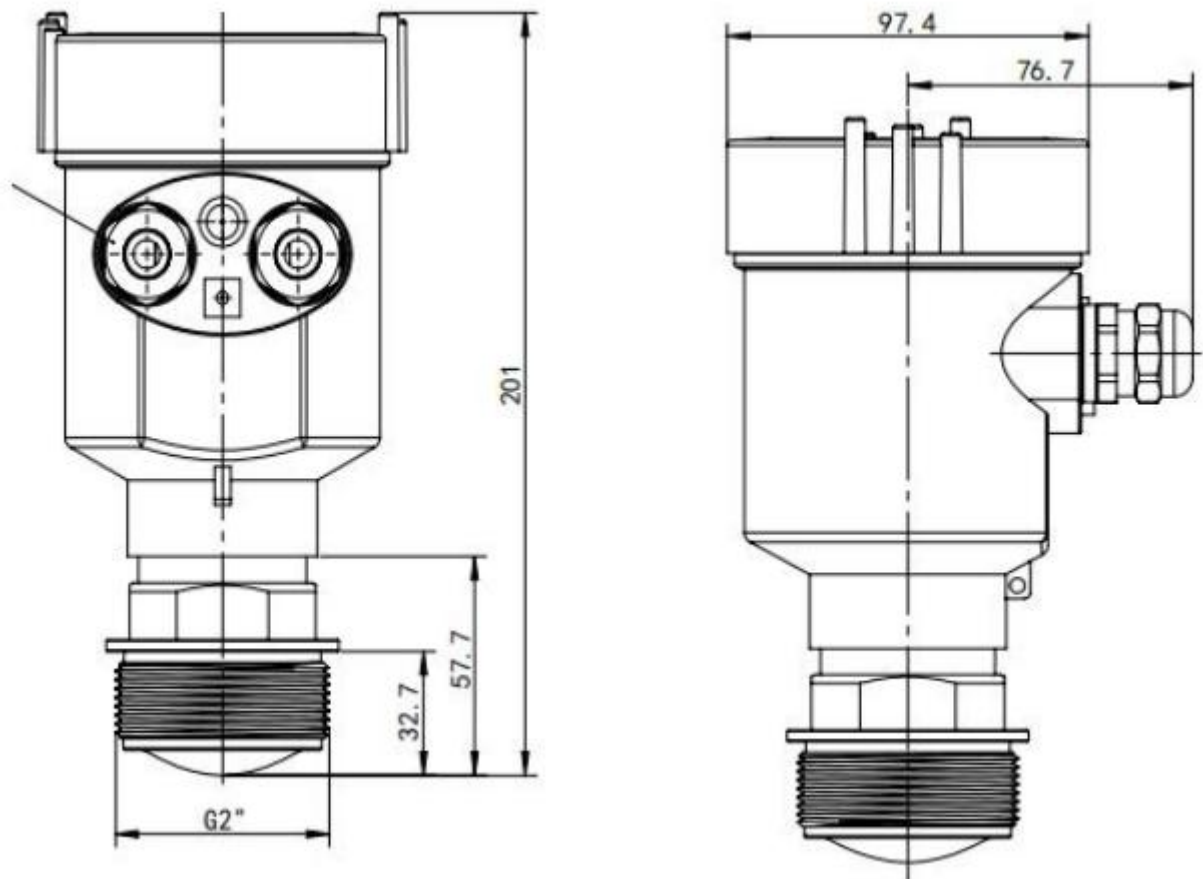

Figure 1. Radar level transmitter shape structure
- Radar level transmitter shape structure figure is shown as in Figure 1.